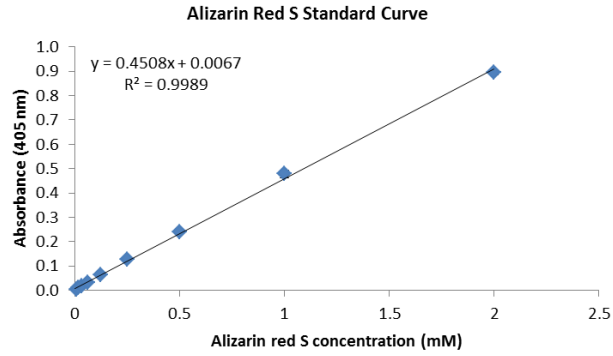

Figure 1. A typical Alizarin Red S standard curve measured by ScienCell's Alizarin Red S Staining Quantification Assay.
A serial dilution of ARS with concentration ranging from 31.3 μ M to 2 mM shows a linear relationship with the absorbance at 405 nm (Figure 1).
- Based on the calibrated $\text{OD}_{405\text{nm}}$ value of the ARS standard, make a standard curve by plotting absorbance (405 nm) as a function of ARS concentration. (See Figure 1 for a typical standard curve.) Determine the equation and R^2 value of the trend line.